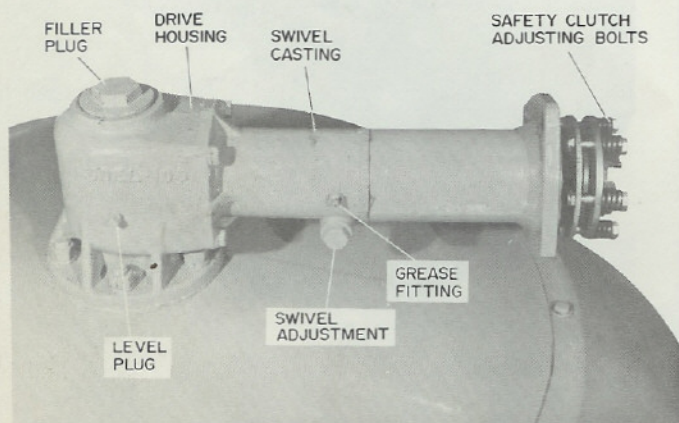

fig. 7
1. Remove the filler plug and level plug. Fill the drive housing to the oil level plug with SAE 90 gear lubricant. Replace the plugs. Check the level periodically especially if signs of leakage are present. See fig. 7.
2. Grease the swivel casting through the grease fitting on the casting with general purpose grease. Add grease until it comes out under the swivel adjustment. Regrease once each season. See fig. 7.
1. Swivel action of the mower is regulated by the nut and bolt on the swivel casting. See fig. 7. Loosening allows more swivel action; tightening reduces the action. The swivel action should be only loose enough to allow the mower to follow ground contour.
3. Safety clutch action is regulated by the attachment clutch assembly. Loosen all 6 locknuts (item 55). Tighten the 6 bolts (item 62) all the way in to the threaded back plate (item 56). Back off each bolt 1/2 turn. Lock the bolts in position with the locknuts.